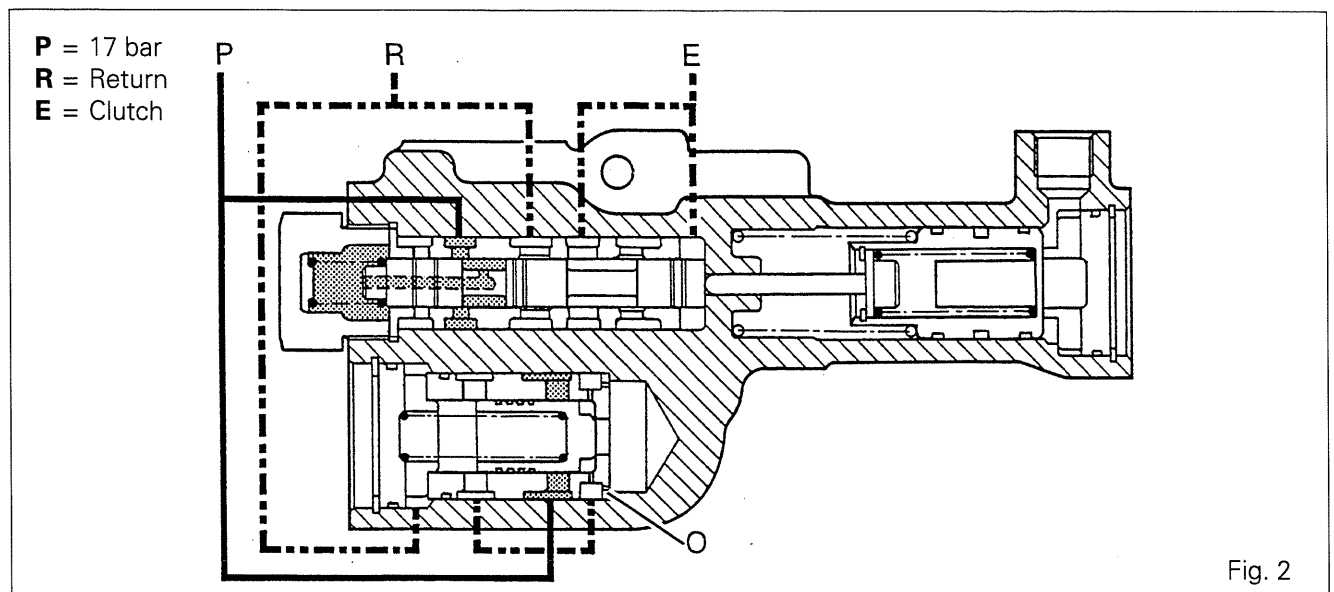

Fig. 2
- The ports «O» (Fig. 2) allow the return of leaks to the housing.
### Neutral position, engine running (Fig. 2)